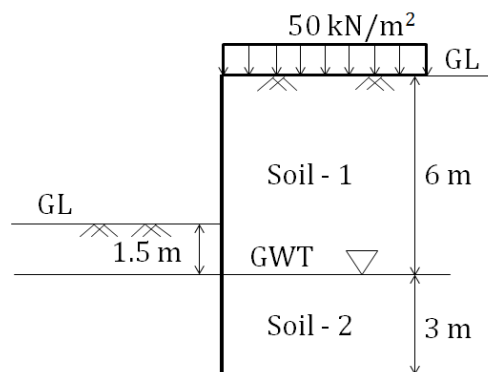

Fig.1
6. (a) The soil conditions adjacent to a sheet pile wall are shown in Fig. 1, a surcharge pressure of 50 kN/m² being carried on the surface behind the wall. For soil 1, a sand above the water table, $c' = 0$, $\phi = 38^\circ$, $\gamma = 18$ kN/m³. For soil 2, a saturated clay, $c' = 10$, $\phi = 28^\circ$, $\gamma_{sat} = 20$ kN/m³. Calculate the total active thrust and passive resistance on the wall. Also determine their locations above the toe of the wall.